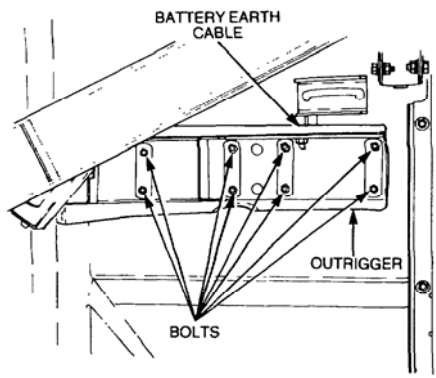

Figure 21 Removal of the Body Mounting Bolts
- ss. Remove the eight bolts, nuts and washers securing the body mounting brackets to the chassis frame outrigger (Figure 21).
- r.** Install the eight nuts, washers and bolts, retaining the body mounting brackets to the chassis frame outrigger, (Figure 21) and tighten them securely.